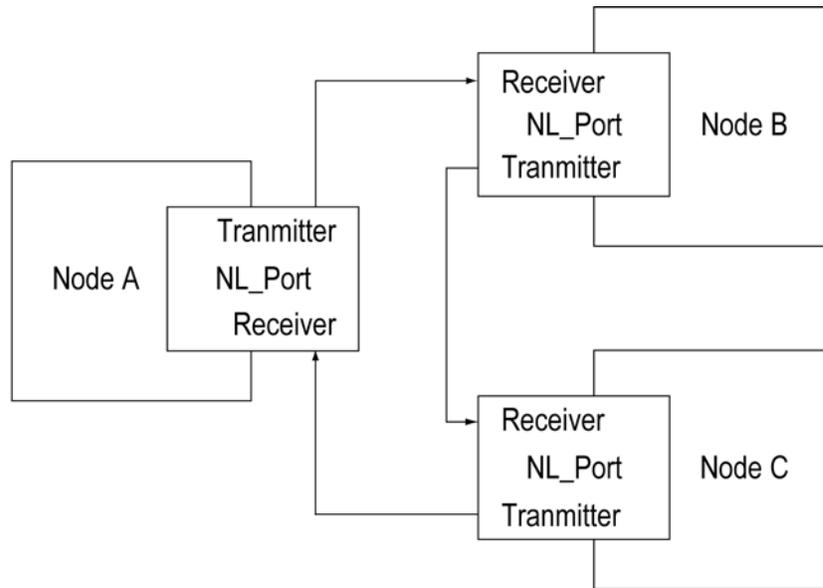

Figure 4. Arbitrated Loop Topology Connection
Nodes are connected in a "topology". The SSD may be connected to an "Arbitrated Loop" (AL), where the nodes of the loop are connected in a circle. *See Figure 4.*